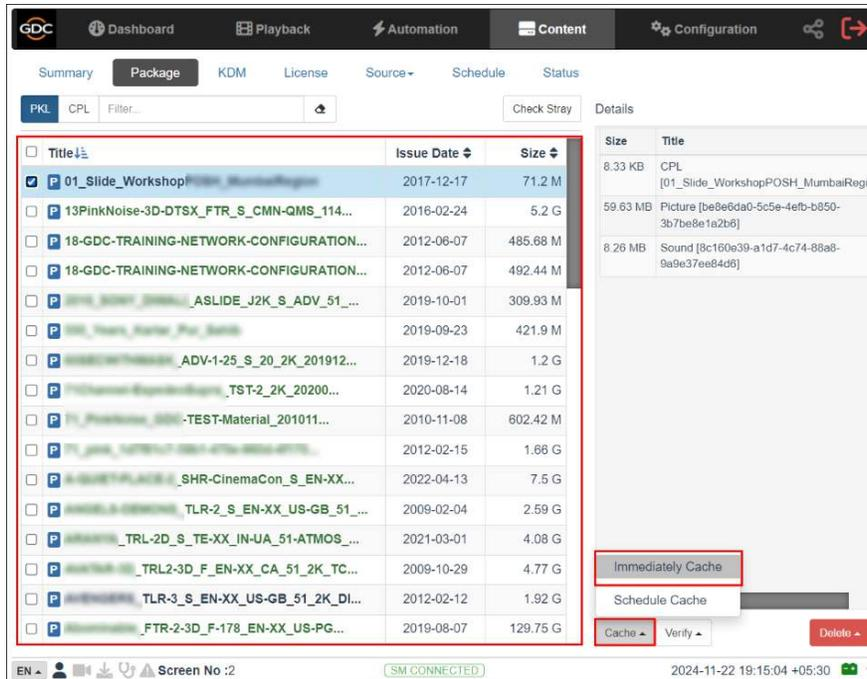

Figure 60: Caching Content
- II. Ingested content listed under the **Content** → **Package** sub-tab will be displayed in two different colors (refer to **Figure 60**):
- III. Ingested content available in the Primary storage can be copied to Secondary storage using the 'Cache' feature. Go to the **Content** → **Package** sub-tab and select the PKL/CPL to be copied. Click the **Cache** button and select the 'Immediately Cache' option (refer to **Figure 60**). This will immediately start copying the content from Primary to Secondary storage. The transfer status will be displayed under the **Status** sub-tab.